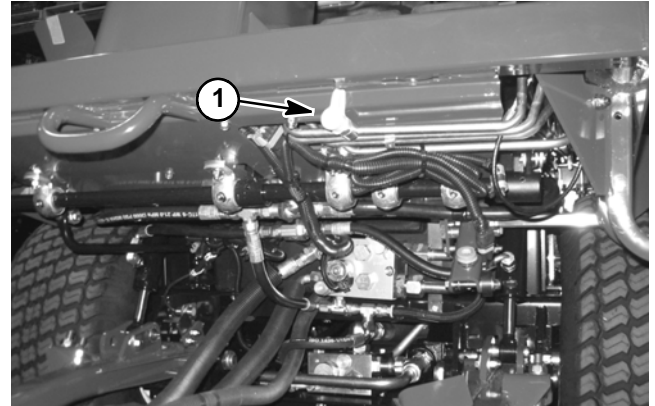

Figure 48
A. On Groundsmaster 4000-D machines, the test port is located on the steering supply hydraulic tube under the front of the machine (Fig. 48).